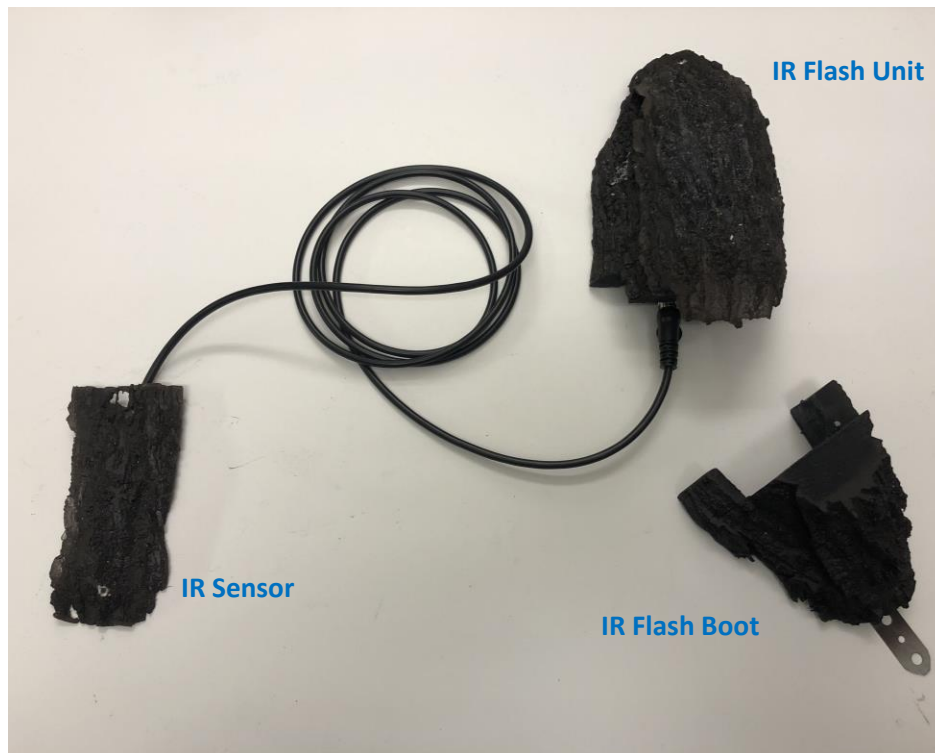

Figure 1: Covert IR Flash System
The Covert Infrared (IR) flash (Figure 1) is an IR flash for use with outdoor game cameras with built in IR Flashes. The WilliamsRDM IR Flash has a covert enclosure and attaches to a tree to provide additional IR lighting to extend the nighttime range of existing deployed game cameras. The IR flash consists of the IR flash unit, IR Flash Boot and IR sensor. The IR Flash unit is placed on a tree facing the direction where additional IR lighting is needed. The IR sensor is connected to the IR flash unit and placed in a location where it can detect the flash from the game camera(s) that will be used to trigger it. The Boot is used to conceal the connections to the IR flash unit. The IR flash incorporates a light sensor so that during the day it enters a low power mode to conserve power and does not activate until nighttime. During the day the IR flash can be recharged by a WilliamsRDM covert solar device for uninterrupted remote operation.